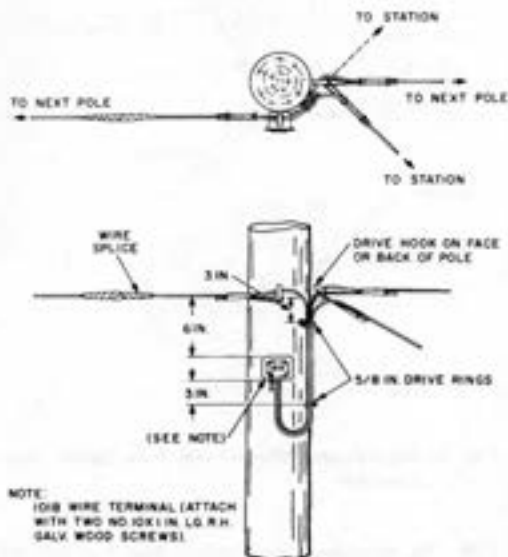

Fig. 9—Completed Party Line Top
(3) After testing to make sure the line is not in use, cut the through drop wire about 2 feet from the first drive hook. The drop wire puller can be used to hold the wire before the cut is made.
(4) Splice a piece of drop wire to the short end of the through drop wire supported by the drop wire puller. Install a drop wire clamp on the spliced wire and place it on the new drive hook on the face or back of the pole.
(5) Place drive rings on pole and run the wire through them and terminate the two ends of the through drop wire on the binding posts of the wire terminal. Terminate the bridging drop wire in the wire terminal on top of the through wire connections. The complete party line tap is illustrated in Fig. 9.
- (1) Place a 101B wire terminal on the pole and cut the existing subscriber circuit into it.
- (2) Terminate the drop wire extension in the 101B wire terminal to make the bridging connection.
- (3) Splice out the existing drop loop and terminate it in the wire terminal. The complete arrangements are similar to those shown in Fig. 9.